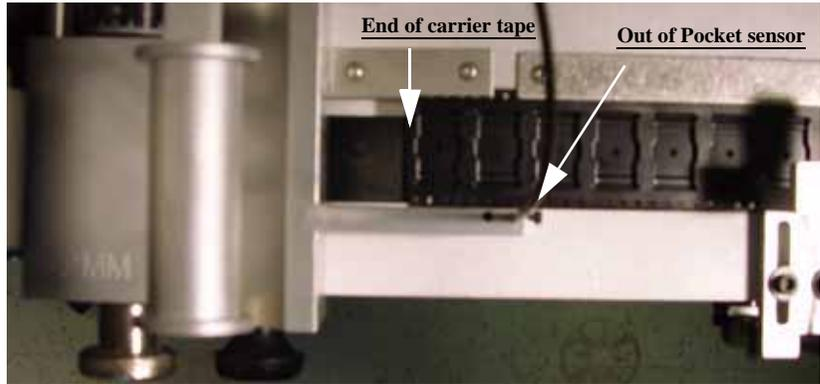

Figure 2-21—Out of Pocket sensor and tape location
- 6a) Slide the carrier tape to the left until it passes the Out of Pocket sensor, as shown in *Figure 2-21*.